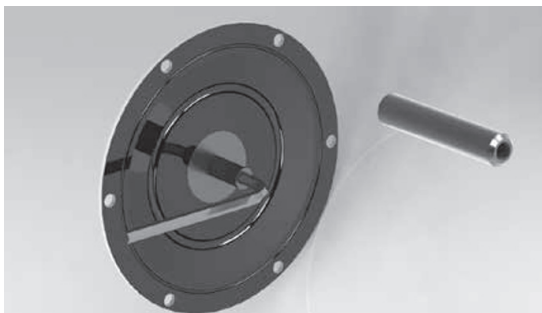

Figure 14
Screw the diaphragm shaft screws (18) into the diaphragms and tighten. Screw one diaphragm (17) completely into the diaphragm shaft (19) (see Figure 14).